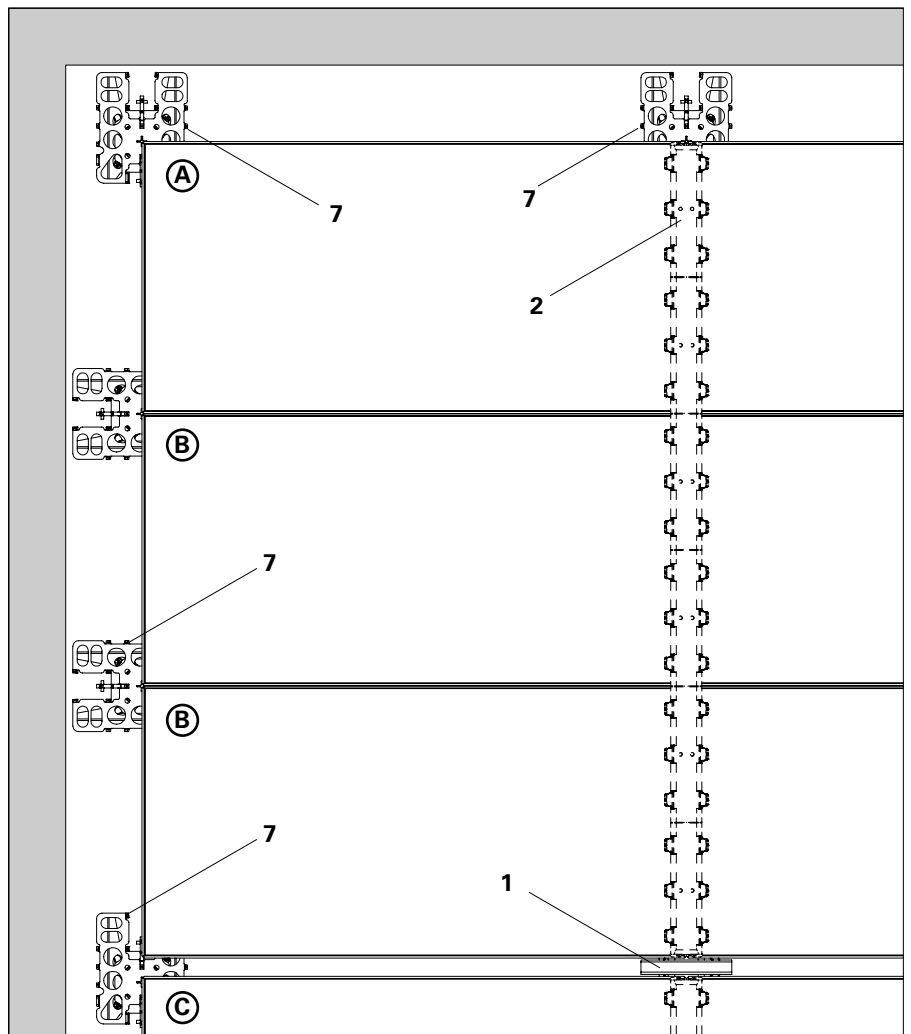

Fig. A5.19
In corners where longitudinal and transverse compensations meet, the Combi-head (7) is aligned in the direction of the main beam. (Fig. A5.19 A)
Install the cantilever of the Combihead (7) up to the compensation area. (Fig. A5.19 B)
In the system with the Drophead (1), the Combihead (7) is always installed transversely if it is positioned under a cover strip. As a result, the panels are prevented from slipping out of position. (Fig. A5.19 C)